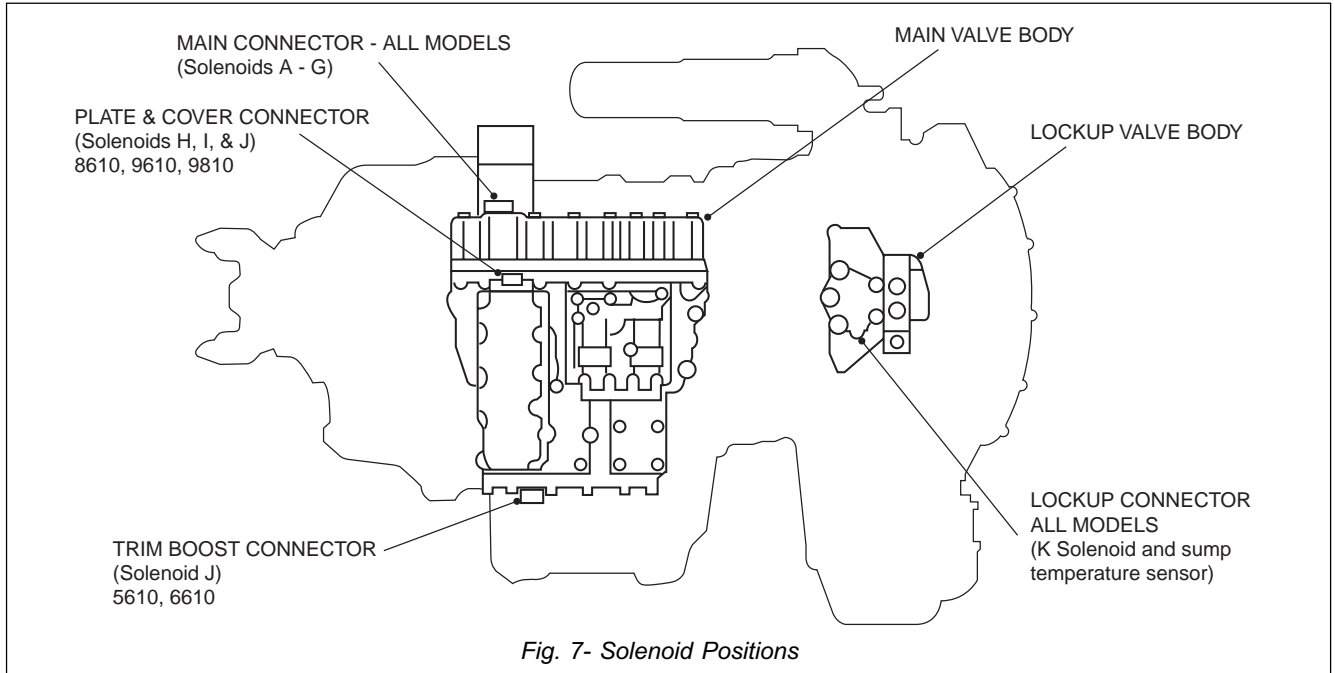

Fig. 7- Solenoid Positions
**Electro-Hydraulic Valve Components:** The CEC-2 electro-hydraulic valve bodies contain various solenoids to control hydraulic pressure (Fig. 7). The solenoid pressure, or lack of pressure, positions shift valves that apply transmission clutches to produce the range selected by the ECU inputs (Fig. 8). The ECU is connected to the solenoids by a wiring harness, with multi-pin twist-lock connectors at the valve bodies (Fig.9).